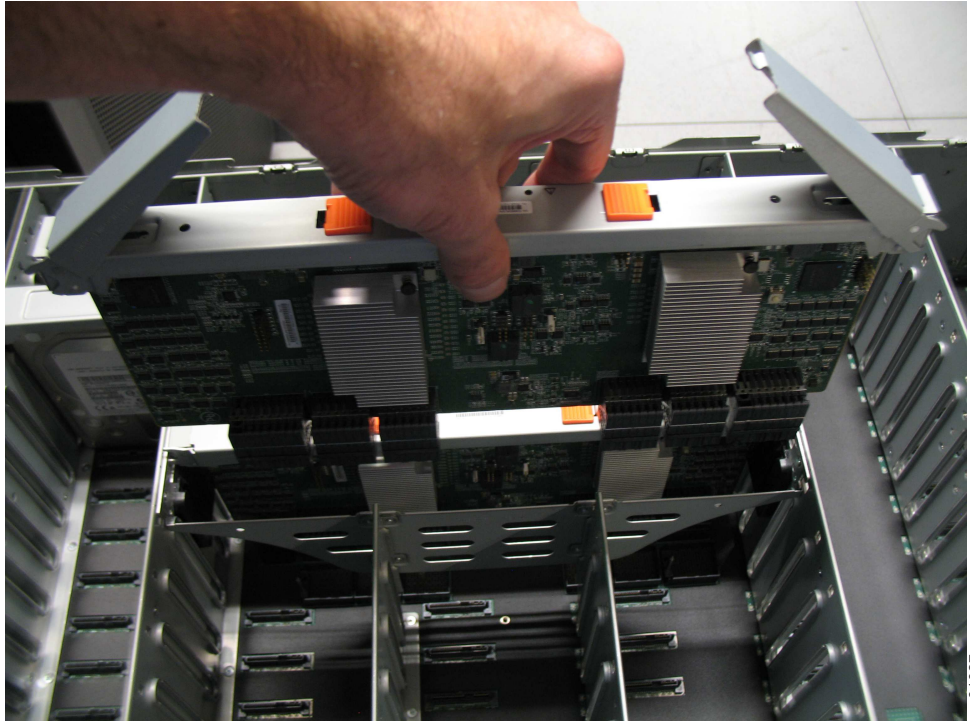

Figure 95. Remove the secondary expander module
4. Lift the secondary expander module carefully out of the enclosure, as shown in Figure 95 on page 104.